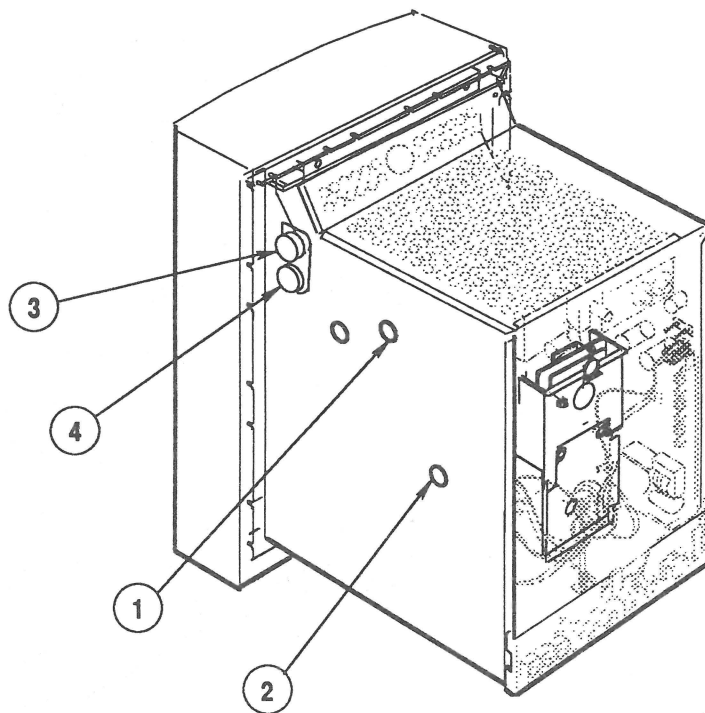

FIGURE 12
3. Using the insulated screwdriver, turn the GAIN control (Figure 12, #1) to its midpoint (approximate center).
4. Using the insulated screwdriver, turn the sub-brightness (SUB BRIGHT) control (Figure 12, #2) to its full clockwise position. This increases the brightness of the display.
6. Set the BRIGHTNESS (Figure 12, #3) and CONTRAST (Figure 12, #4) controls at maximum (full clockwise).